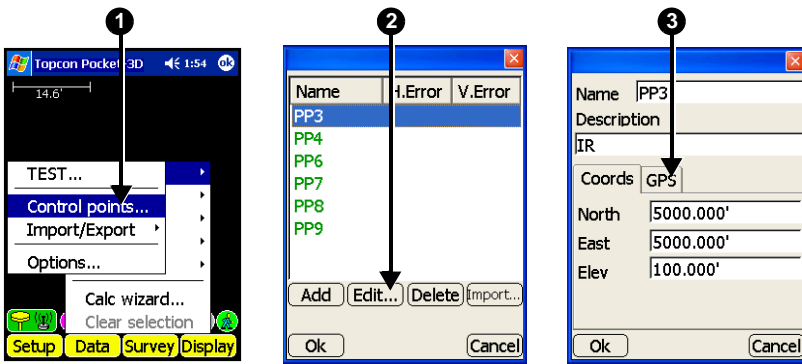

Figure A-18. Select Control Point to Localize
1. Ensure the control point file for the jobsite is selected (**Data ▶ Control**) and select the equipment configuration for the current setup (**Setup ▶ Equipment**) (Figure A-18).